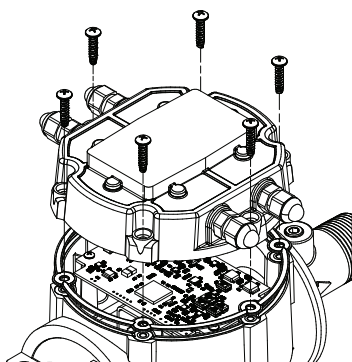

Figure 12
- Remove (6) screws retaining the cover plate to the meter body and lift the cover plate free of the meter body (see Figure 12).